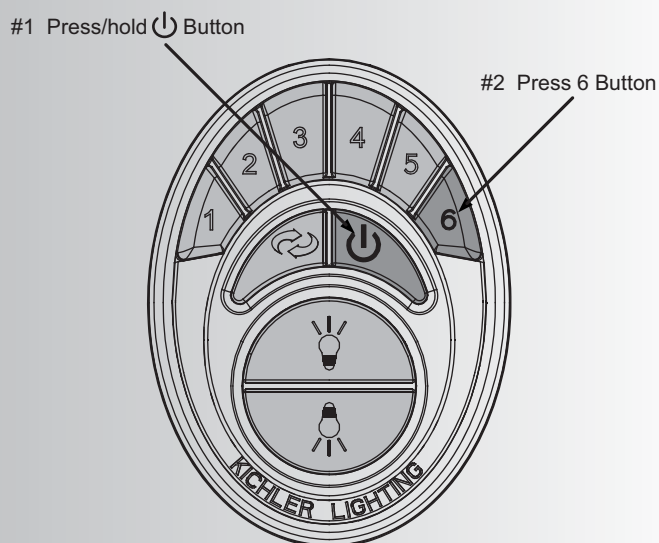

Fig. 14
4. Turn the power on, press and hold the (⏻) button until the ceiling fan light blinks twice (Figure 14)
6. After the ceiling fan light blinks twice, press and release the High Speed (6) Button. Let the ceiling fan run for a minimum of 90 seconds (1 ½ minutes). The control system will do another self check, initialize all operational functions and complete the programming process (Figure 14).